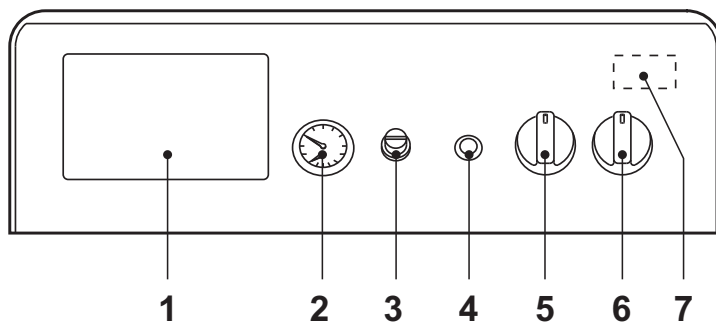
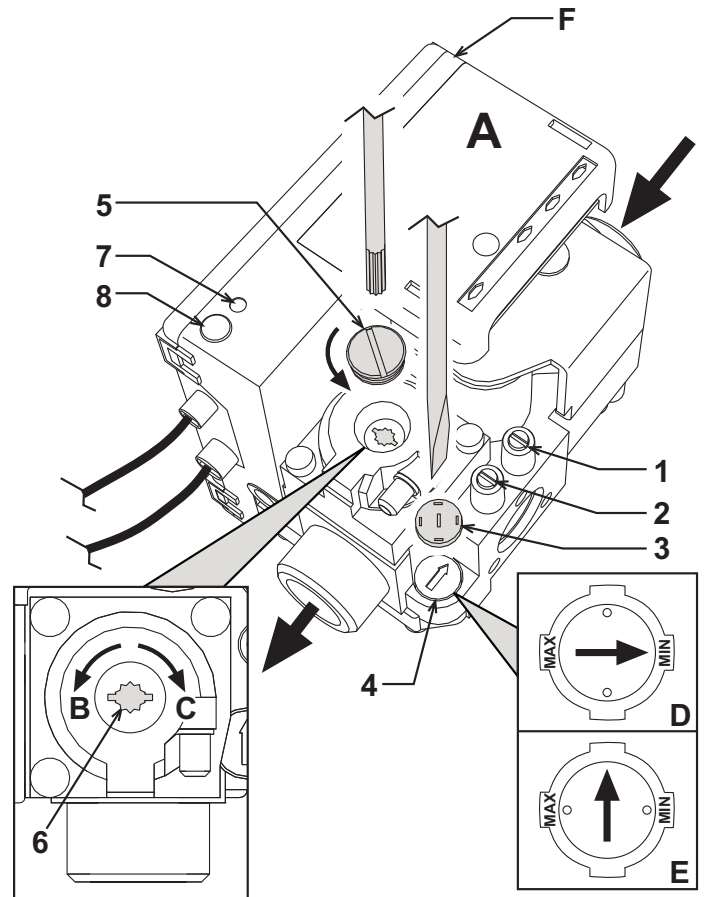

fig. 46 - Control panel
fig. 48 - Pressure adjustment
- Turn the main switch "6" to position 1 (fig. 46).
- If the boiler is equipped with an electronic thermostatic controller fitted in position 1 of fig. 46, the user must also take into account the manufacturer's instructions.
Turn the knob 5 of fig. 46 clockwise to increase the heating water temperature, or anti-clockwise to decrease the temperature. The temperature can be varied from a minimum of 30°C to a maximum of 90°C. However, it is advisable not to operate the boiler below 45°C.
Using the room thermostat, set the required room temperature. Controlled by the room thermostat, the boiler lights and brings the system water to the temperature set by boiler control thermostat 5 of fig. 46. The generator turns off when the required temperature in the rooms is reached.
The filling pressure with system cold, read on the boiler water gauge detail 2 of fig. 46, must be approx. 1.0 bar. If, during operation, the system pressure falls (due to the evaporation of gases dissolved in the water) to values below the minimum described above, the User must bring it to the initial value by operating the filling cock. At the end of the operation always close the filling cock.
Connect a manometer to the pressure point 2 (fig. 48) located downstream of the gas valve, and turn the boiler thermostat knob (ref. 5 - fig. 46) to the maximum value.
After removing the protection cap 5 (fig. 48), adjust the gas pressure at the burner by turning the screw 6 to the required value (see technical data table and output variability diagrams given in cap. 20).
2. Remove the small protection cap 3 (fig. 48) from the gas valve. Using a small screwdriver, adjust the ignition "STEP" for the desired gas (**G20-G25** position **D** fig. 48 or **G30-G31** position **E** fig. 48); then refit the cap.